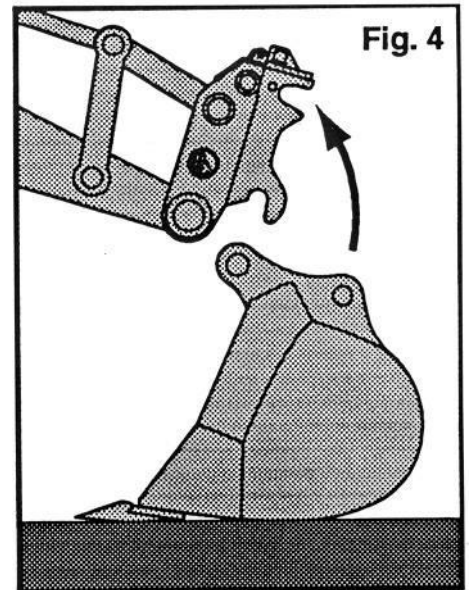

Fig. 4
3. Operate the excavator to position the Quick-Latch in a vertical orientation (See Fig. 4). The attachment must be level and resting securely on the ground.